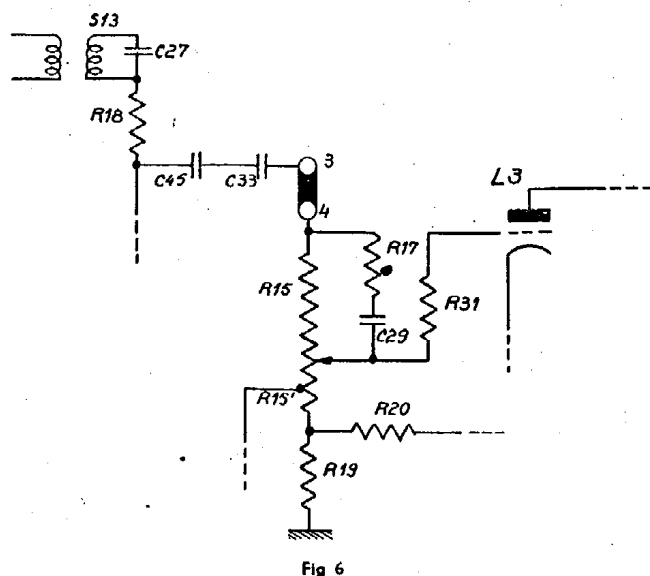

Fig. 6
**POSITION 2 " COUPURE BASSE "** (figure 6).